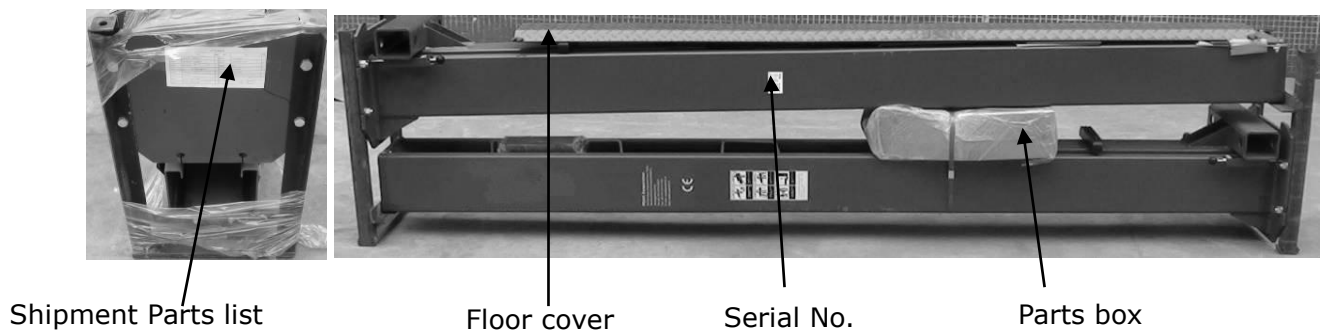

Fig.8
2. Move the lift aside with fork lift or hoist, and open the outer packing carefully, take off the parts from upper and inside the column, take out the parts box, check the parts according to the shipment parts list (See Fig. 8).